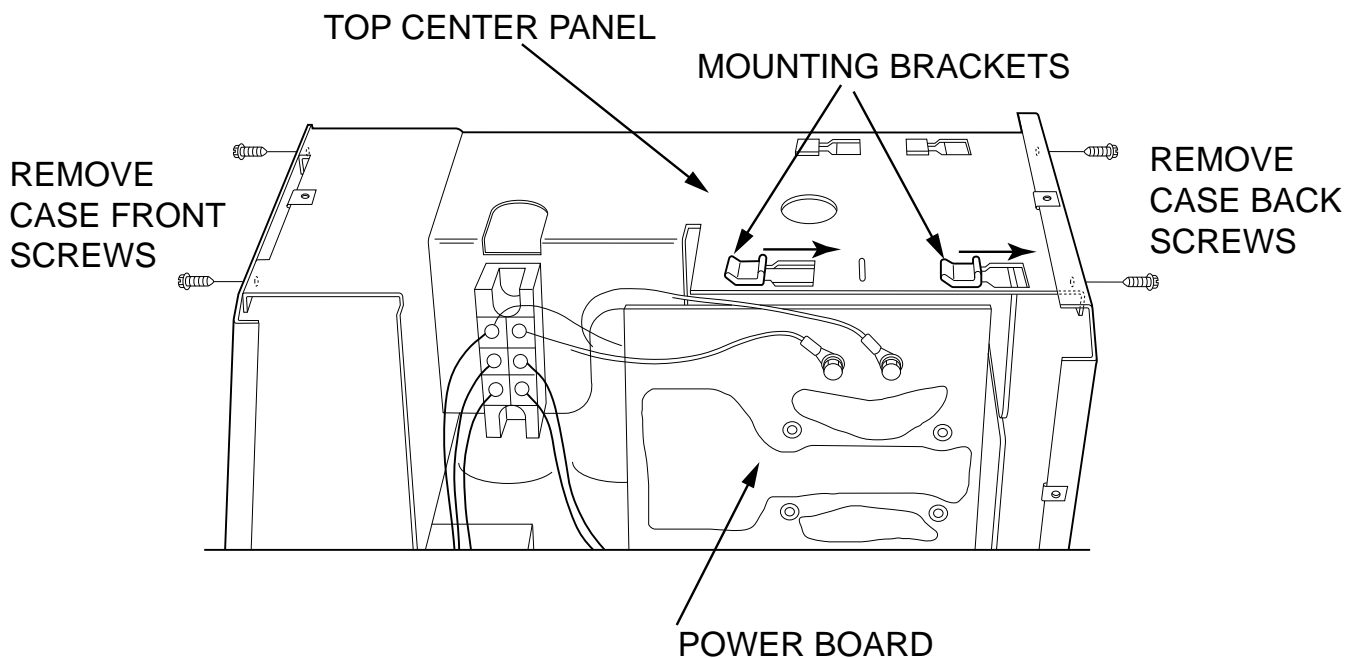

Figure F.15 Heatsink/Power Board Removal
4. Using the 5/16" nut-driver remove the two screws from the top rear of the case back. See Figure F.15.
5. Using the 5/16" nut-driver remove the two screws from the top front of the case front panel. See Figure F.15.
6. Using the slot head screwdriver carefully disengage the heatsink/power board mounting bracket from the top center panel. This can be accomplished by sliding the bracket assembly towards the rear of the machine while at the same time gently lifting up on the top center panel. See Figure F.15.
13. Using the 5/16" nut-driver replace the two screws at the top rear of the case back. See Figure F.15.
14. Using the 5/16" nut-driver replace the two screws at the top front of the case front panel. See Figure F.15.
9. With the 5/16" nut-driver remove the two screws from the top rear case back. See **Figure F.15**.
15. Install the two screws into the top rear case back. See **Figure F.15**.